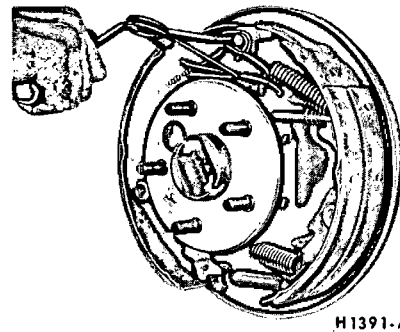

FIG. 8 Retracting Spring Installation
6. Install the primary shoe to anchor spring (9 and 10 inch brakes) or secondary shoe to anchor spring (11 inch brakes). Refer to Fig. 8.
8. Install the secondary shoe to anchor spring (9 and 10 inch brakes) or the primary shoe to anchor spring (on 11 inch brakes) with the tool shown in Fig. 8. Be certain that the cable eye is not cocked or binding on the anchor pin when installed. All parts should be flat on the anchor pin. Remove the brake cylinder clamp.